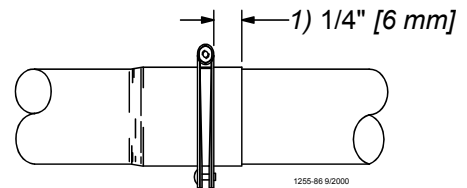

Figure 43. Clamp Installation
Figure 43 shows the proper clamp location on the tube joint. **Do not tighten the clamp at this time.**
- make sure the clamps are located, as shown in **Figure 43**.